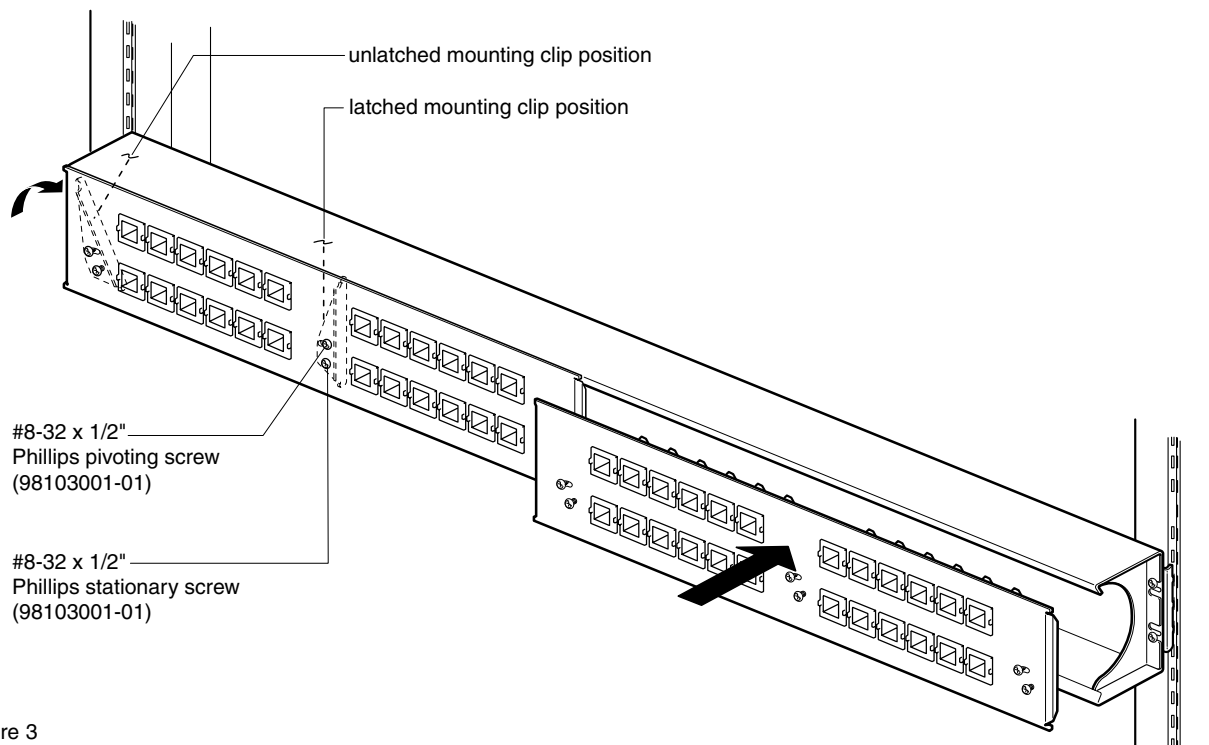

Figure 3
3. At each mounting clip location, loosen the pivoting #8-32x1/2" Phillips head screw that holds the mounting clip to the cover by at least 1/8". Do not remove screw completely. (Figure 3)
4. Loosen the stationary #8-32x1/2" Phillips head screw ensuring the mounting clip shifts to the unlatched position. (Figure 3)
5. With the cover in place on the base, tighten the stationary screw. As this screw is tightened, the pivoting screw should swing so that the two screws are parallel with the edge of the cover and the mounting clip should be latched to the base. Tighten both screws completely on all of the mounting clips in the cover. (Figure 3)